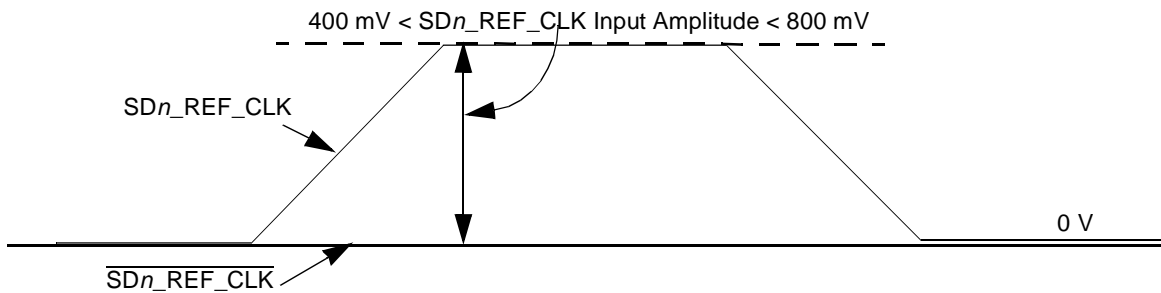

Figure 52. Single-Ended Reference Clock Input DC Requirements
- The `SDn_REF_CLK` input average voltage must be between 200 mV and 400 mV. Figure 52 shows the SerDes reference clock input requirement for single-ended signaling mode.